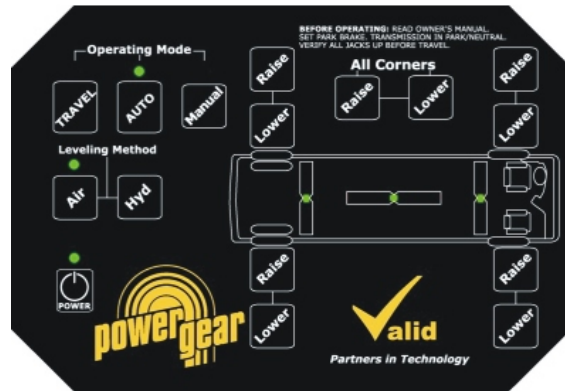

Fig. 2
3. After the three cycles are complete, the vehicle should be level and all three level displays should be indicating green (Fig 2).